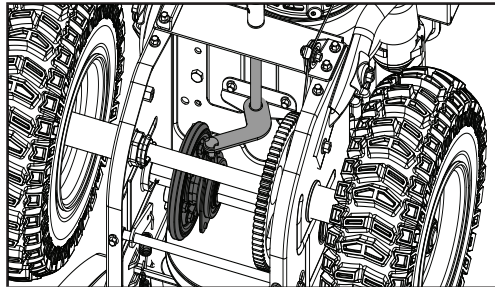

Figure 46
- Follow the previous steps in reverse order to reassemble the parts (Fig. 46).